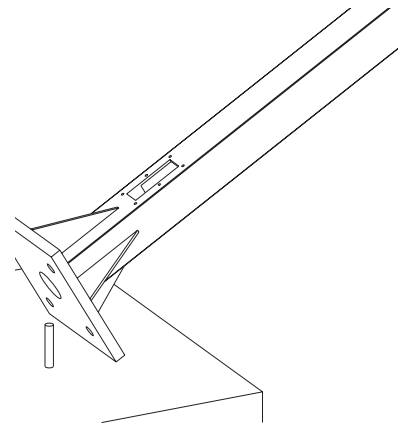

Figure 7 Lifting the Pole into Position
5. Slowly lift the pole into the upright position, aligning the holes of the Base Plate with the Bolts in the concrete pad (Figure 7).